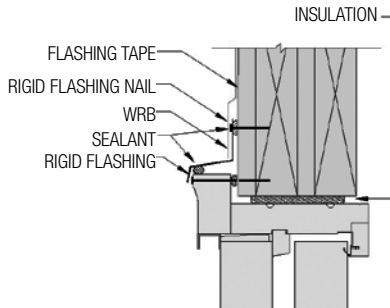

FIG. 17: HEAD JAMB
- A) Apply sealant: Apply a horizontal bead of sealant between the top edge of the rigid metal flashing and flashing and the top of the brickmould. (Fig. 17)
- B) Apply the rigid metal flashing. The flashing should extend approximately 1/8" past the edge of the brickmould on each side. Nail the flashing to the rough opening using at least a 1" roofing nail every 8"-10" approximately 1/2" below the top edge of the rigid flashing. Ensure that the nail is compatible with the rigid flashing material to prevent corrosion. (Fig. 17 & 18)
- C) Overlap the WRB over the rigid metal flashing. Trim the excess WRB at the rigid flashing bend that is directly below the rigid flashing nail. (Fig. 17 & 18)
- D) Insulate between the door frame and the rough opening using minimally expanding window and door spray foam insulation. Use caution to not overfill the gap, causing the jambs to bow. It is not recommended to apply trim to the unit until the foam has cured to allow the excess to escape. (Fig. 17 & 19)